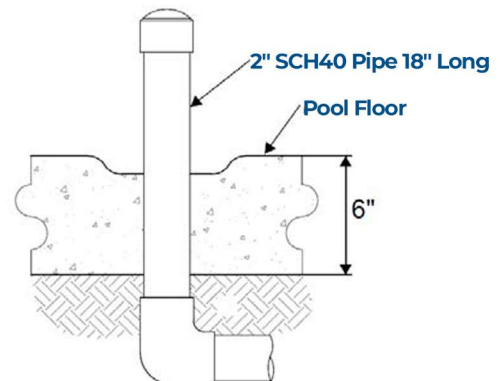

FIG. A 1-1
- Position so jet feed lines are perpendicular to the slope of the finished pool floor. See Fig. A 1-1